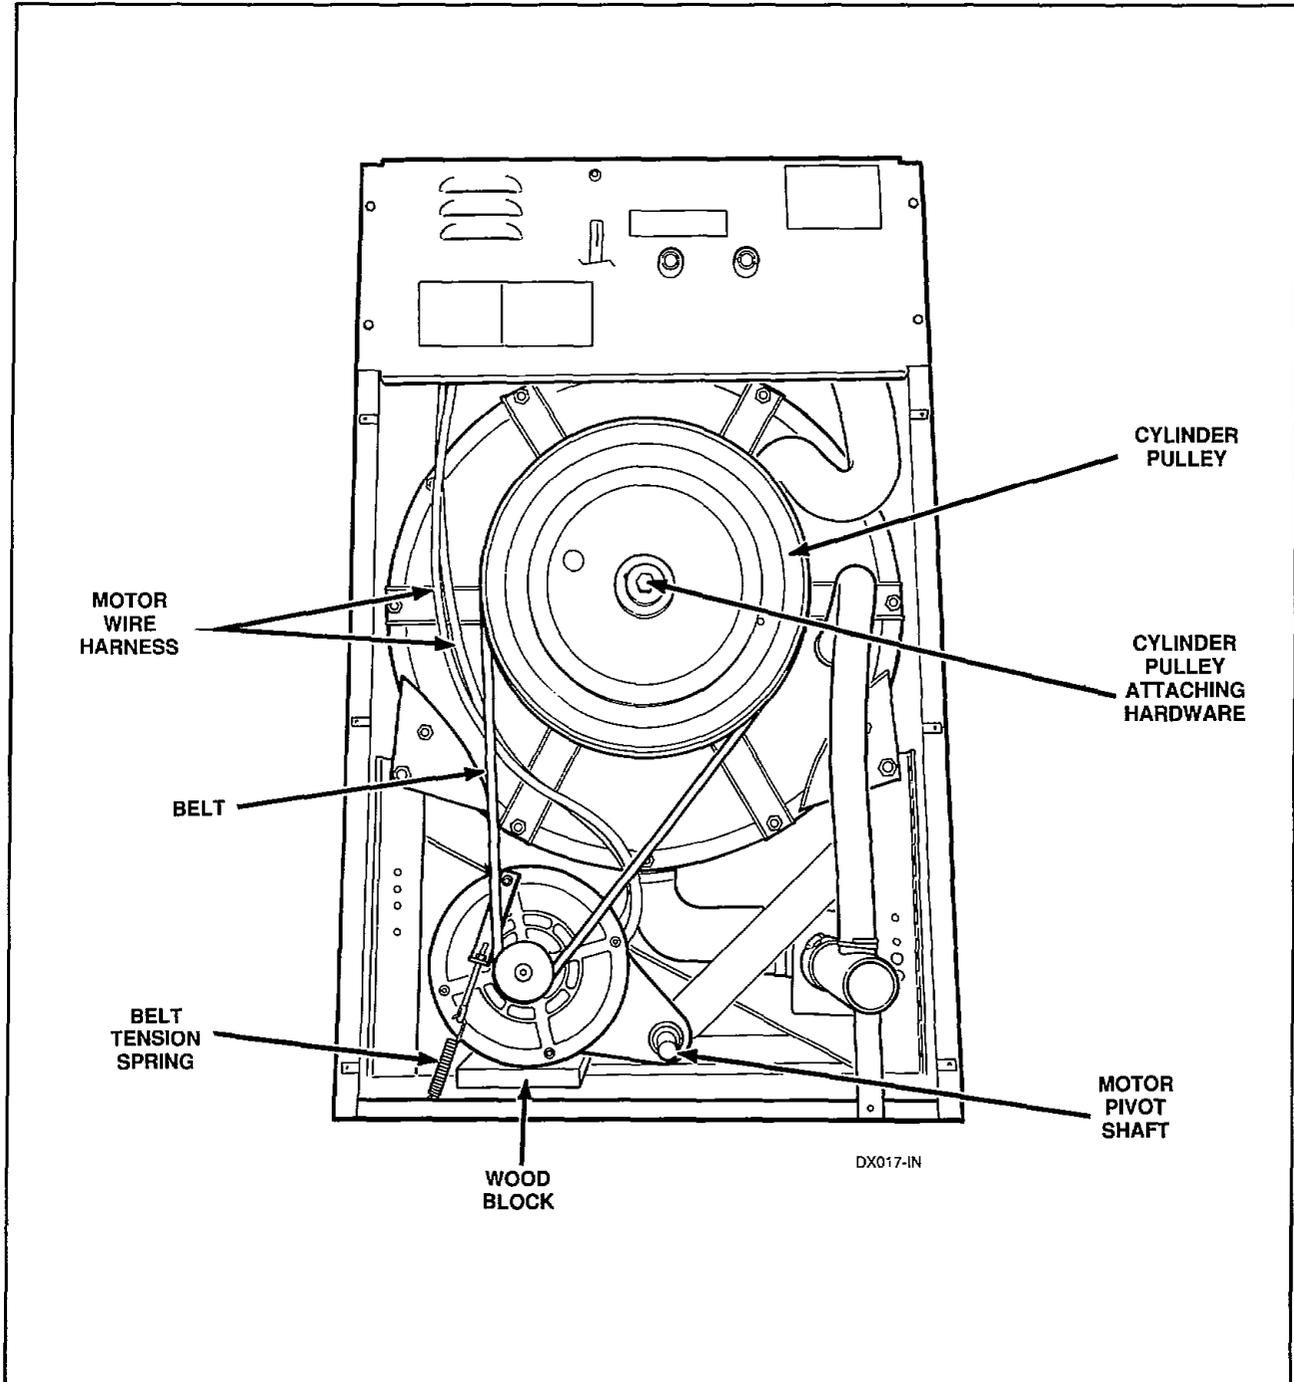

Figure 11
- b. Run belt off cylinder pulley while slowly turning pulley, *Figure 11*.
- j. Run belt off cylinder pulley while slowly turning pulley, *Figure 11*.
- k. Unhook the belt tension spring from the motor, *Figure 11*.